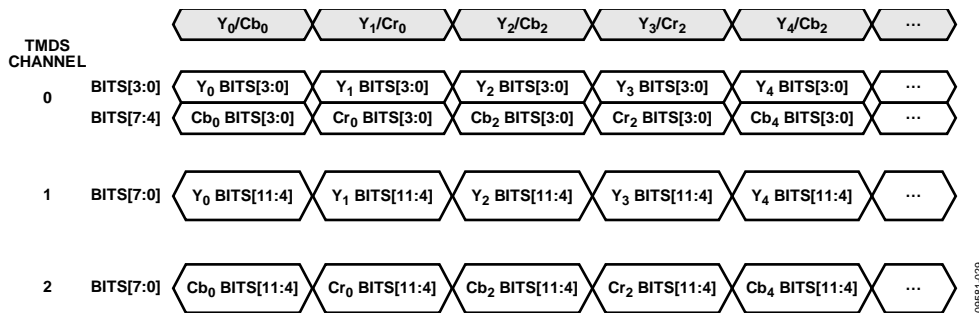
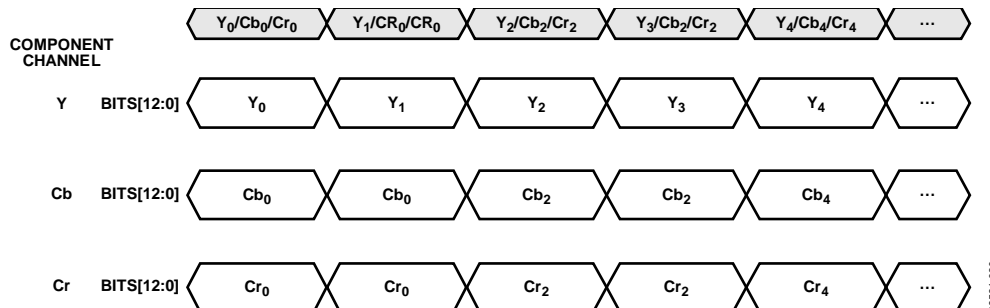

Figure 29. YCbCr, 4:2:2 Video Data Encapsulated in HDMI Stream
Figure 30. Video Stream Output by HDMI Core for YCbCr, 4:2:2 Input and UP_CONVERSION = 0
- If the HDMI section receives a stream with video encoded in a 4:2:2 format (refer to Figure 29), the HDMI section upconverts the video data into a 4:4:4 format, according to the **UP_CONVERSION_MODE** bit, and passes the upconverted video data to the DPP section (refer to Figure 30).